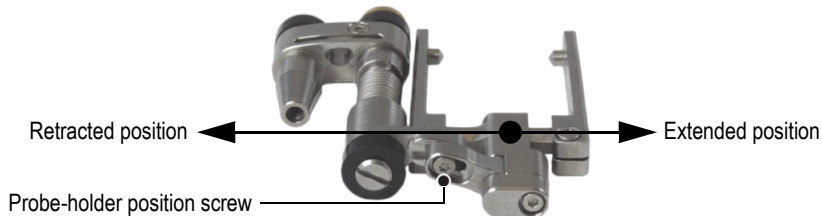

Figure 2-12 Adjusting the probe-holder position
5. Configure the probe holder (see Figure 2-12 on page 41):